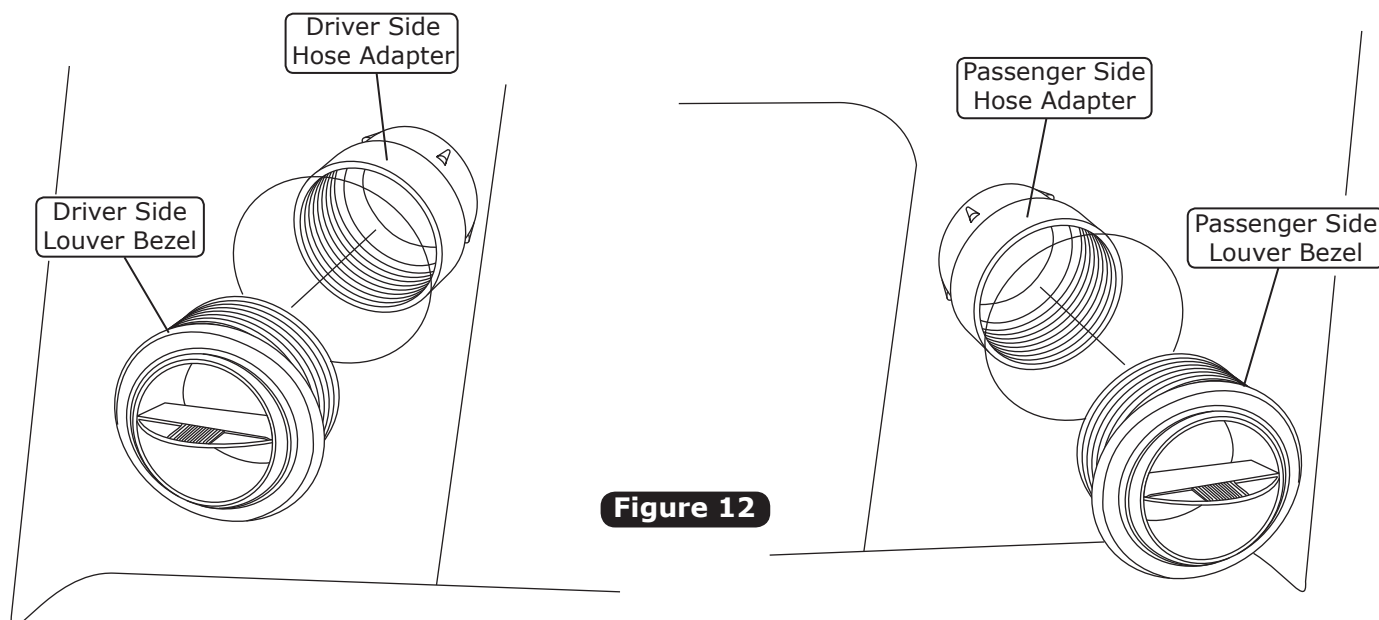

Figure 12
1. Install the louver bezel through the dash opening. From behind the dash, install the hose adapter onto the louver bezel as shown in Figure 12, below.